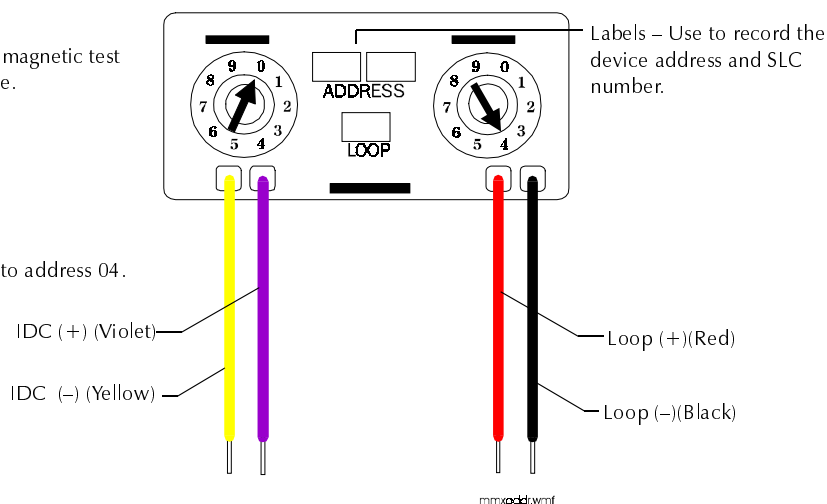

Figure 2-68 Setting the MMX-1 Module Address
Wiring an MMX Module Connect the SLC wiring to MMX terminals 1 (–) and 2 (+). The MMX takes one module address on the SLC. Use the rotary switches on the MMX to set the module to the required SLC address. (For example, the MMX-1 shown in Figure 2-68 is set to SLC address 04.)
3. Set the CMX rotary switches to the required SLC address. (The CMX takes one module address on the SLC.) For instructions on setting rotary switches, see Figure 2-68 on page 2-49.
3. Set the CMX rotary switches to the required loop address. (The CMX takes one module address on the SLC.) For instructions on setting rotary switches, see Figure 2-68 on page 2-49.